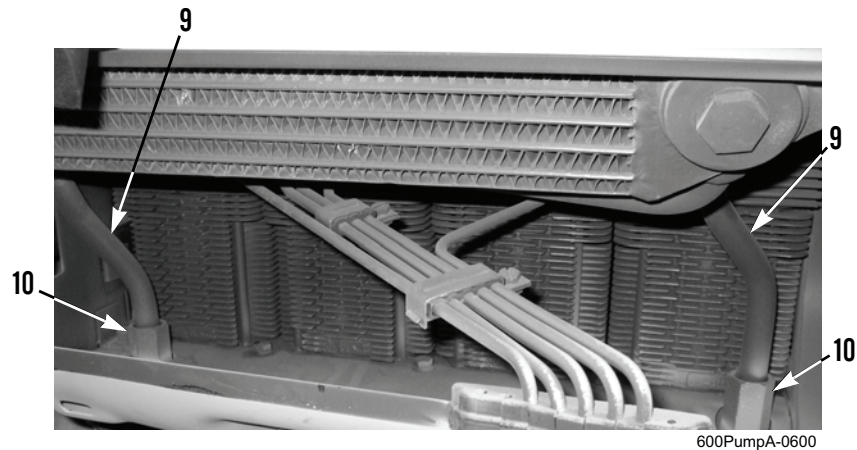

Figure 2. Oil Cooler and Union Screws.
1. Disconnect two union screws (Figure 2, Item 10) on oil cooler tubes (Figure 2, Item 9) from engine block.